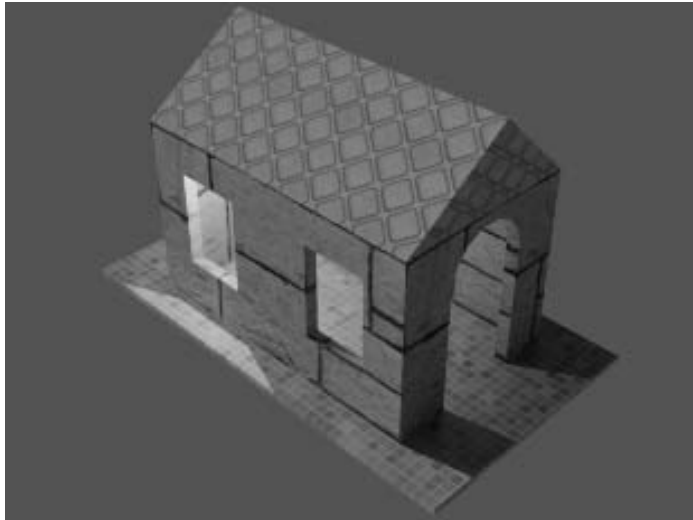

Figure 30-89 Rendered model with the effect of light 1
4. Choose the **Render** button from the **Render** panel in the **Render** tab of the **Ribbon** to perform rendering. The rendered model is displayed in the **Render** window with the effect of light 1 only, as shown in Figure 30-89.